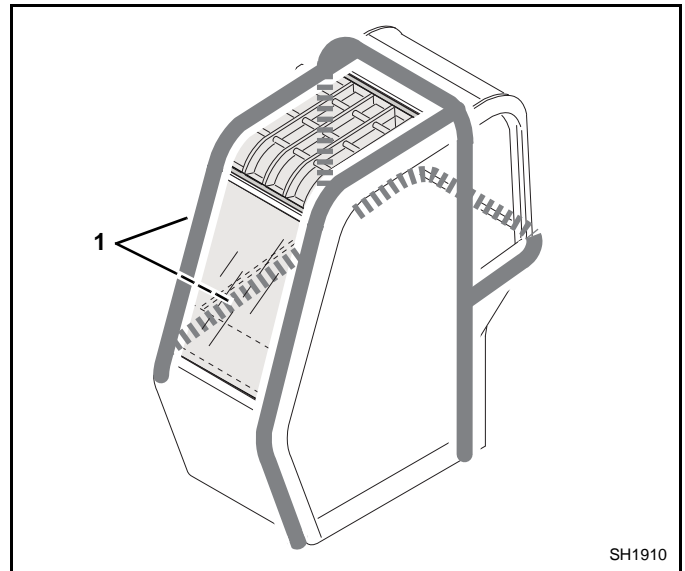

Figure 5
3. Refer to Figure 5 and clean the areas designated with a heavy gray line (Figure 5, 1), including the outer edges of the windshield and skylight with a glass cleaner. DO NOT use an ammonia based glass cleaner. Allow the surface to dry completely.